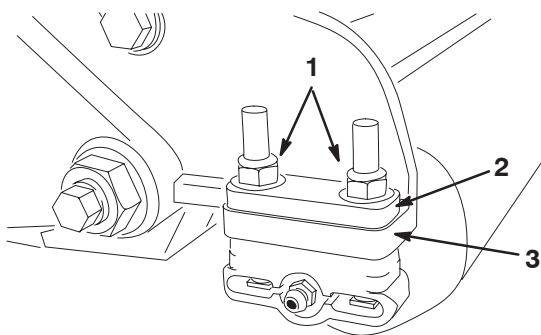

Figure 7
7. Remove the (2) flange lock nuts securing each roller bracket to the side plates (Fig. 7). Do not remove the bolts. **Also, remove any 1/4" spacers positioned on the top side of the side plate mounting flange.**